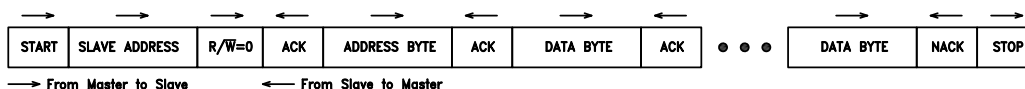

Figure 2. Master transmitter writes to slave receiver
**Write Cycle** (master transmitter sends data to slave receiver. See Figure 2: the transfer direction is from Master to Slave and does not change. The master generates a Start condition followed by a 7-bit slave address followed by the R/W bit set to 0. The slave with a matching address replies with an acknowledge. The master then transmits the first byte to the slave device, this first byte is an address of the internal registers of the slave. The slave device replies with an acknowledge bit. For a subsequent Read cycle the master generates a stop bit, otherwise the master then transmits the next byte, which is now a data byte to be stored in the internal slave register previously addressed. This is followed by an acknowledge bit from the slave. This process can continue for multiple bytes and the slave device increments its internal register address count as it receives subsequent bytes from the master. When all data transfer is over, the master generates a Stop condition to end the cycle.